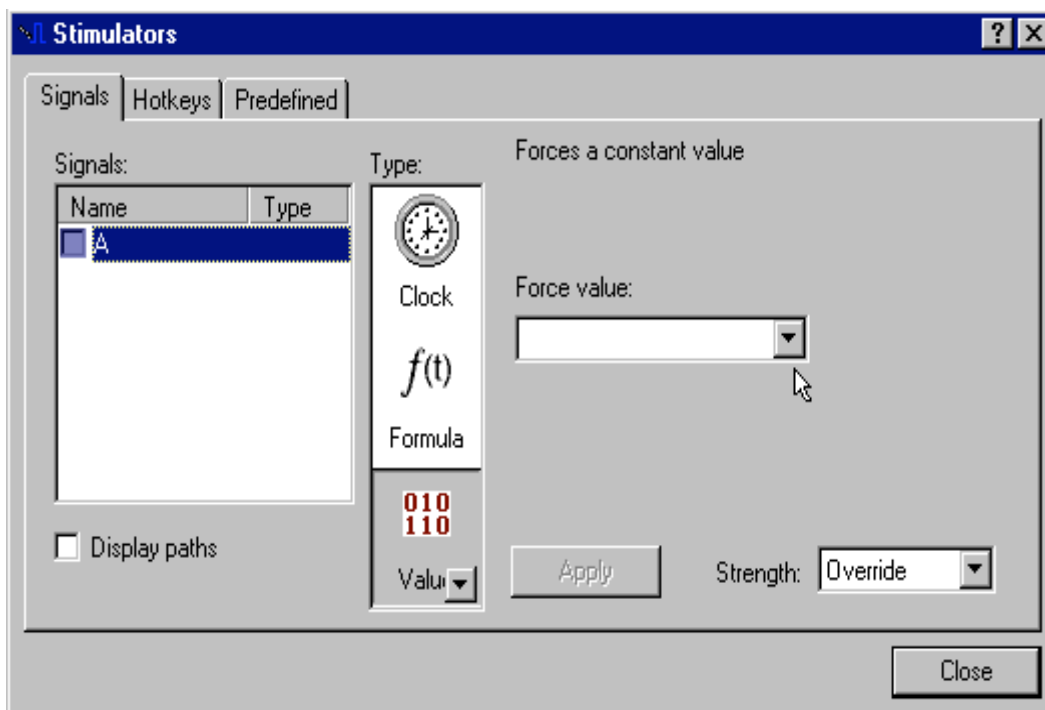

Figure 49
2. Select the desired value from the “Force value” field (see Figure 49 on the next page).